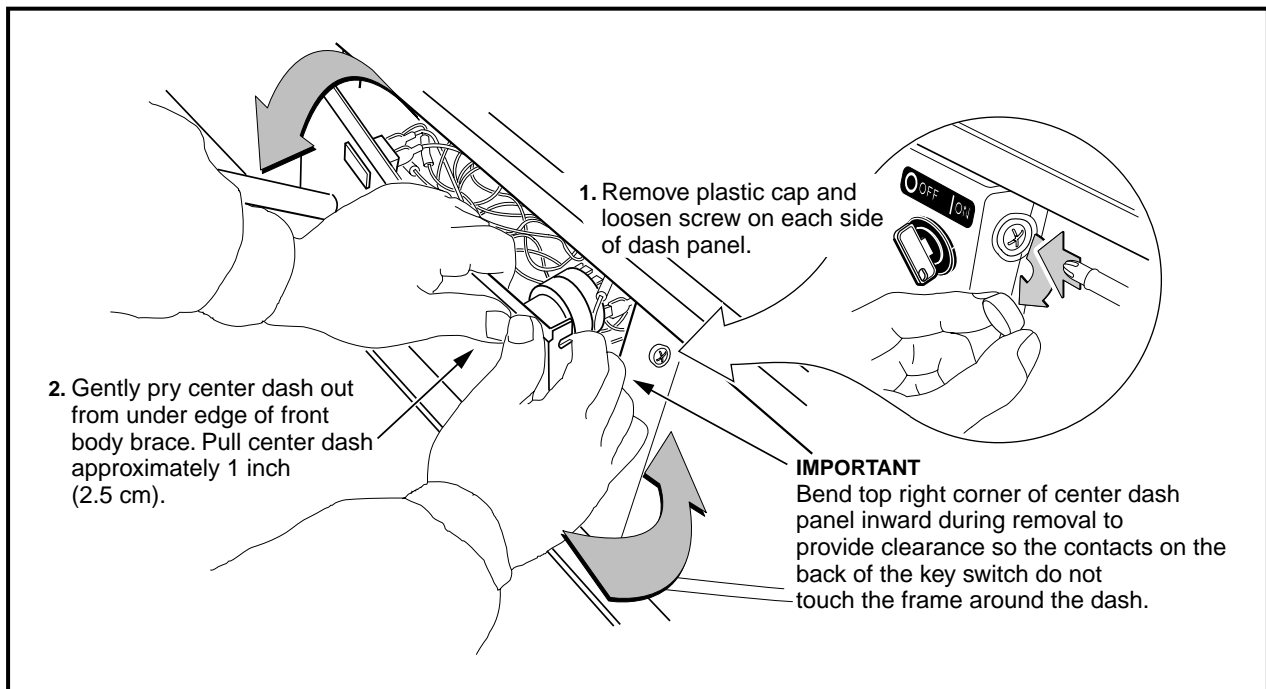

Figure 7-3 Dash Removal
4. Remove the center dash panel (**Figure 7-3, Page 7-3**).
- 4.1. Remove the plastic cap covering the mounting screw on each side of the center dash (**Figure 7-3, Page 7-3**).